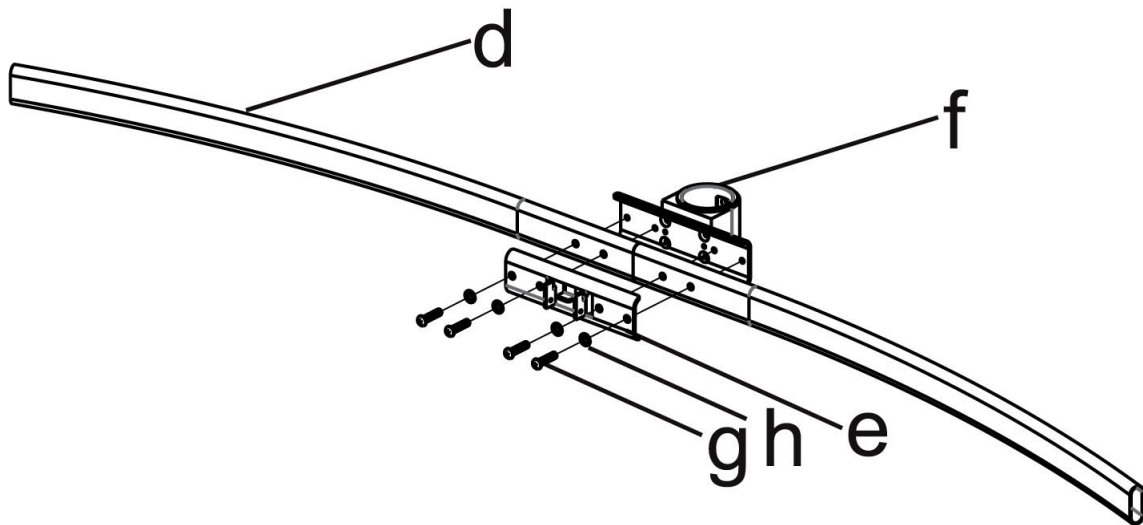

Figure 2a
1. Assemble the Curved Arms (d), Arm Connector Plate (e), Arm Clamp (f) and fasten with M6x25 Bolts (g) and M6 Washers (h) using an Allen Key (o) as shown in Figure 2a.